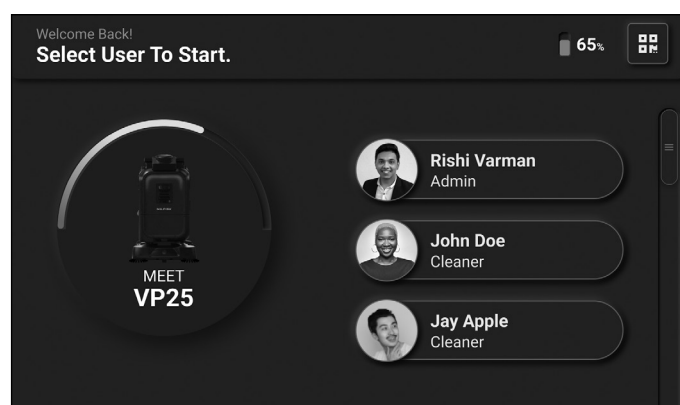

Figure 21
1. Select the account to login (**Fig. 21**).